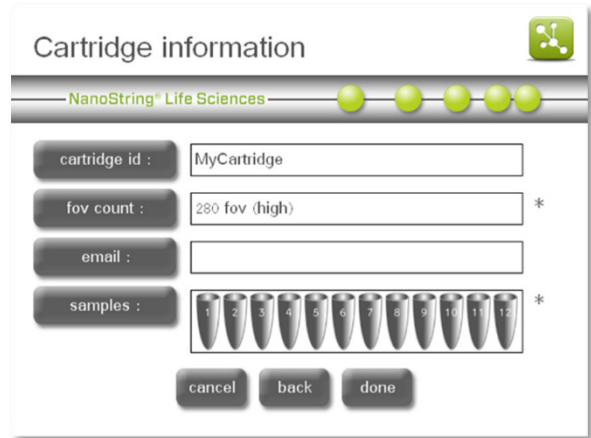

Figure 72: The 'Cartridge information' screen
- The Digital Analyzer will return to the 'Cartridge information' screen (Figure 72). Press **fov count** to change the data resolution.
6. The system will return to the 'Cartridge Information' screen (**Figure 72**).